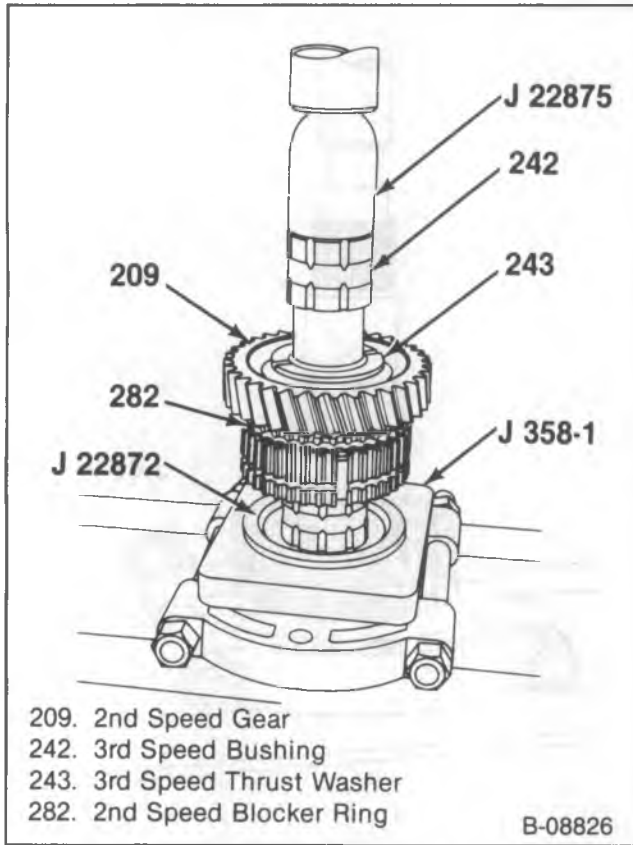

Figure 19 –Installing the 3rd Speed Gear Bushing
6. 2nd speed blocker ring, the 2nd speed gear (209) and the 3rd speed thrust washer (243) (figure 19).
7. 3rd speed bushing (242) using J 22875 (figure 19).